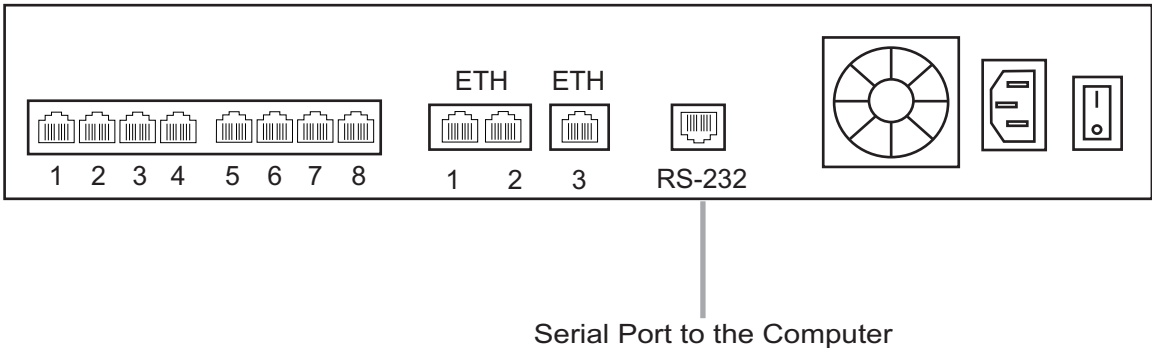

Figure 2.4 Computer to TMP800 Serial Port Connection
- 1. Connect a RJ45 CAT5 straight cable (supplied with unit) between the com port of your computer and the serial port (labelled RS-232) of the TMP800 as shown in Figure 2.4 on page 13. See Section 2.6 “Console pinout” on page 14 for a RJ-45 pinout description.